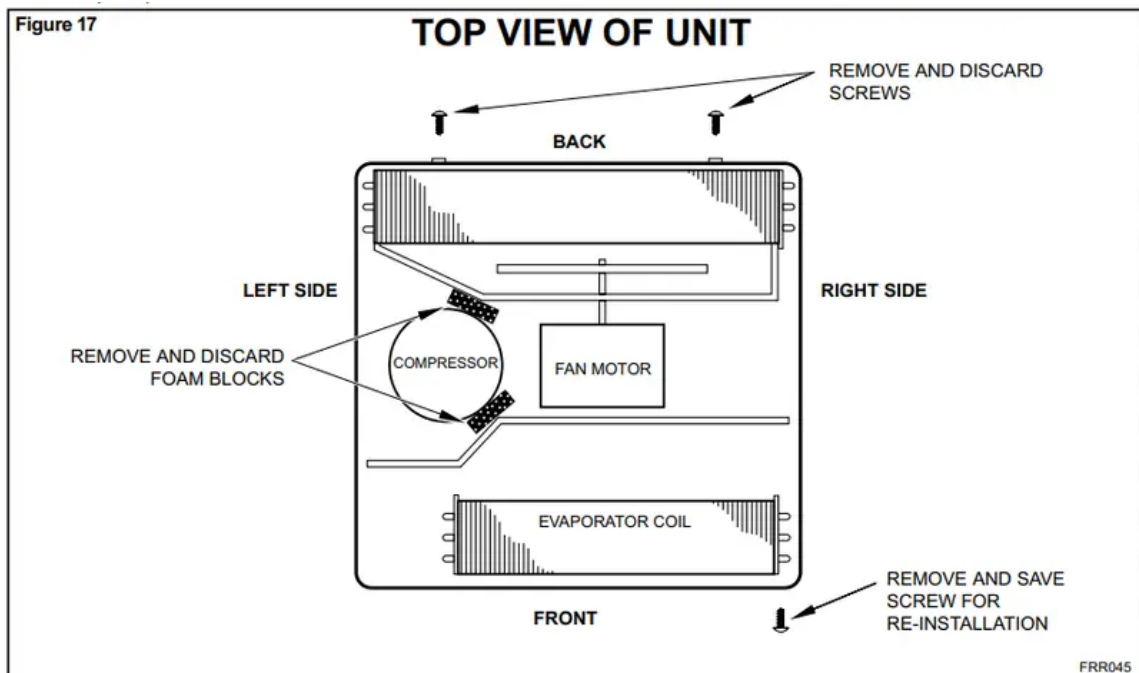

Figure 18
Anchor the side angles (Item 6) by engaging the tabs of the lower sill plate (See Figure 18, Detail B-2) with the loops of the side angle. Engage the tabs of the top angle (Item 5) with the top loops of the side angle (See Figure 18, Detail B-1). Install two (2) screws (Item 7) to secure the top angle tabs and the side angle to the cabinet (See Figure 18, Detail B-1).